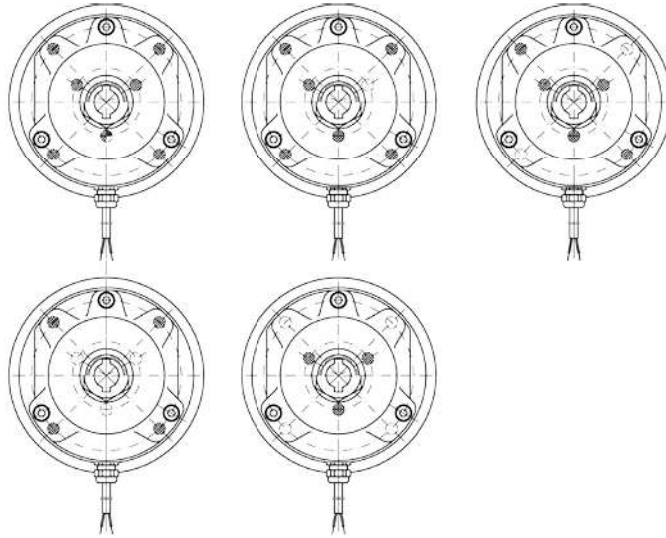
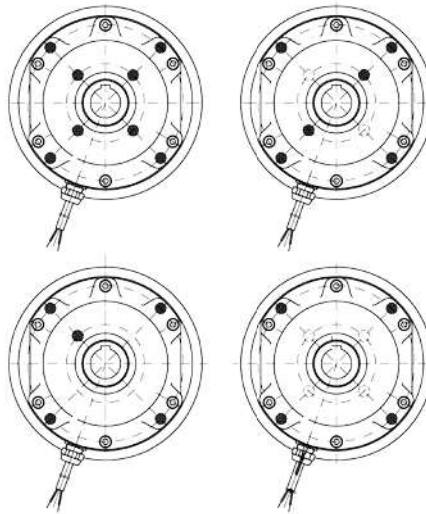

Figure 7.1 Positioning of the springs – Brakes ES(X)010A...ES(X)200A
Figure 7.2 Positioning of the springs - Brake ES(X)250A
Diferent brakes torques (see Brake Technical Data) can be reached by means of differing spring placement (see figure 7.1) in the magnet housing (Pos. 1).
- Insert the new spring set- positioning see figure 7.1 and figure 7.2